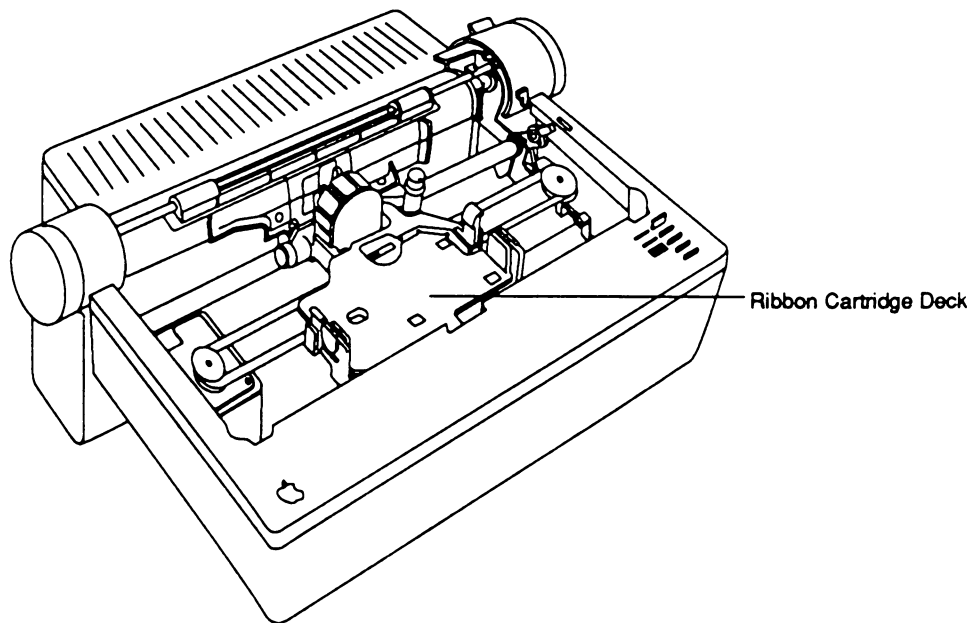

Figure 4. Ribbon cartridge deck
2. If the **ribbon cartridge deck** is off to the side, gently slide it toward the center of the printer, as shown in Figure 4.